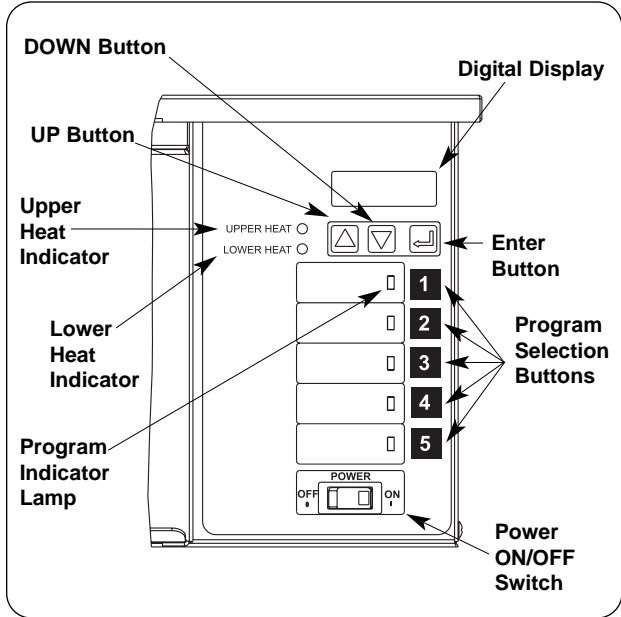

Figure 10. Control Panel
2. Turn the Power Switch to the “ON” position. (See Figure 10). The unit will make an audible beep, automatically go into “Preheat” and the display will indicate  $\text{Preheat}$ . If the unit displays “OFF”, press one of the five product selection keys to put the unit into “Preheat” mode.